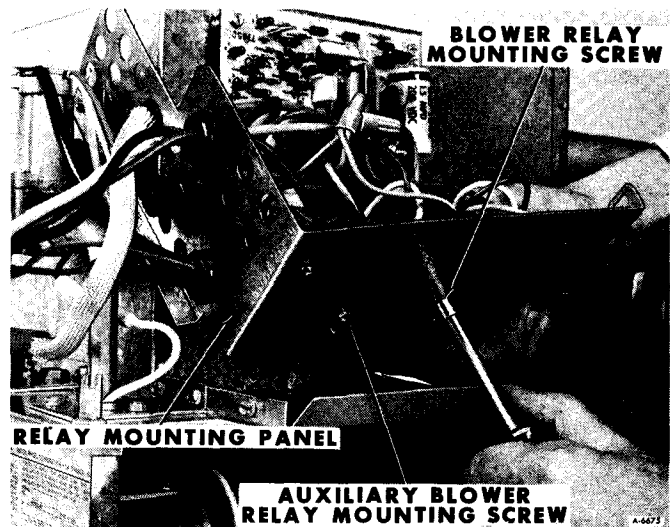

Figure 16—Removing Blower Relay
4. Remove relay mounting screw (figure 16).
2. Install relay mounting screw (figure 16).